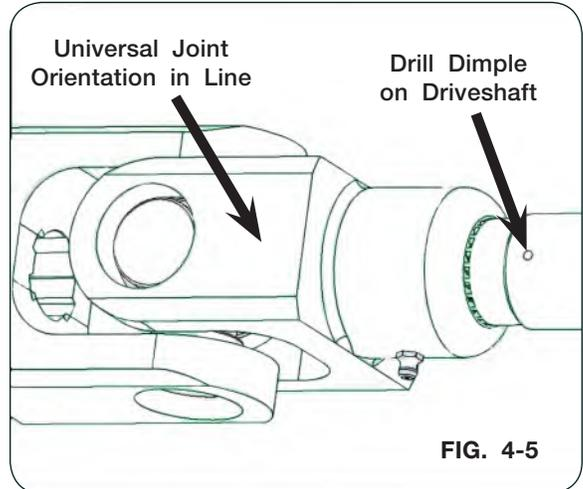

FIG. 4-5
13. With bearing mounting hardware completely tightened, drill a setscrew dimple in the driveshaft by going through the bearing setscrew threaded hole to dimple the driveshaft being careful to not damage threads. Drill the dimple to a depth that setscrews are flush with the bearing prior to applying thread locker and installing setscrews. (FIG. 4-5)
14. For alignment of the yoke, the orientation of the universal joint at the gearbox must be in line with the driveshaft drill dimple when the driveline assembly is attached. (FIG. 4-5, 4-6, and 4-7)